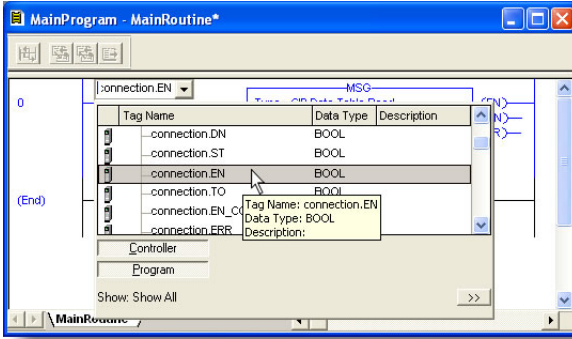

Figure 109: Configure XIO Element
- a) Double-click on the XIO element located to the left of the MSG block. In the drop-down box, double-click on the "connection.EN" field. Refer to Figure 109. This configuration causes the MSG instruction to automatically retrigger itself when it completes. While this is acceptable for the purposes of this example, it can produce high network utilization. In actual practice, it may be desirable to incorporate additional logic elements to allow triggering the MSG instruction at a specific rate or under specific conditions.